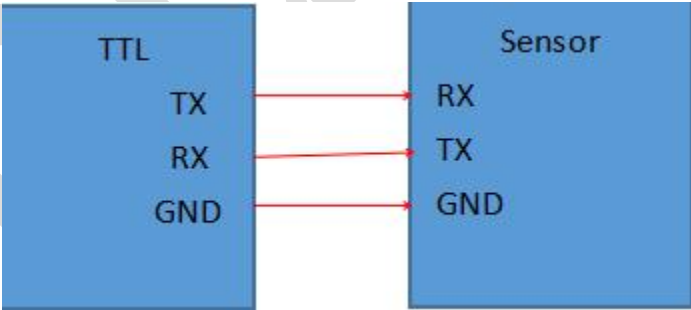

Figure5.4
Connect TTL to device, as shown in Figure 5.4.
- 2 Connect the TTL to the device as shown in figure 5.4.